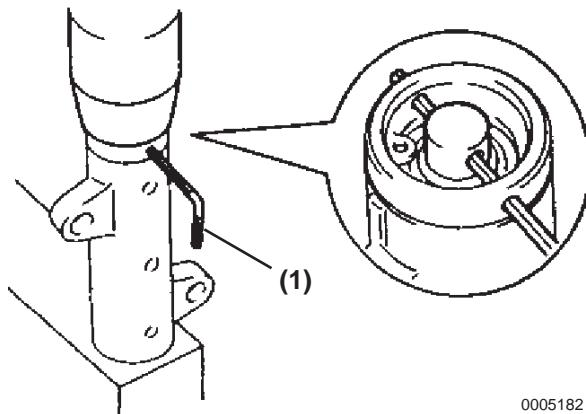

Figure 5-182
- Align the push rod to the hole in the housing and carry out positioning of the push rod by passing a 1.5 mm allen / hex wrench (**Figure 5-182, (1)**) through the hole.